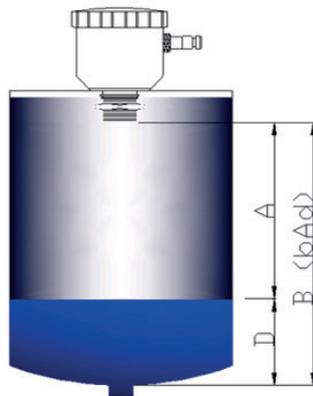

Fig. 7
When using level mode for measured height, the level meter shows the distance from the end of the level gauge probe to the liquid level (A). See in figure7.